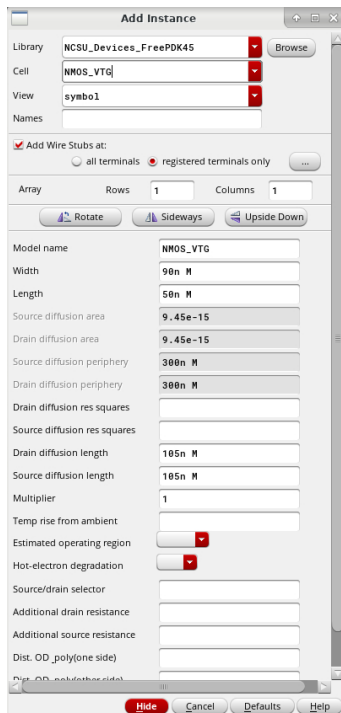

Figure 11: Adding instance view
choose “NCSU\Devices\FreePDK45” for the library, “NMOS_VTG” for the cell, and “symbol” for the view (Figure 11).
3. For this lab, in the “Add Instance” window, keep the “Length” to 50 nm, and set the “width ” to 90 nm (Figure 11).
8. Once all the components are instantiated, wire them as shown in Figure 11. To connect the components click Create → Wire or just press “w” from the keyboard. You can use “ESC” to escape the wiring function.